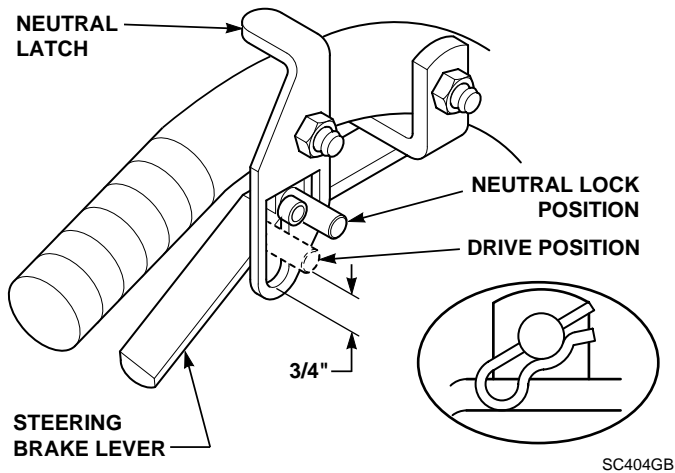

Figure 4. Steering Control Rod Adjustment
1. Adjust the steering control rods so that there is approximately 3/4" clearance from the bottom of the rod to the bottom of the neutral latch slot when in the drive position. (See Figure 4)